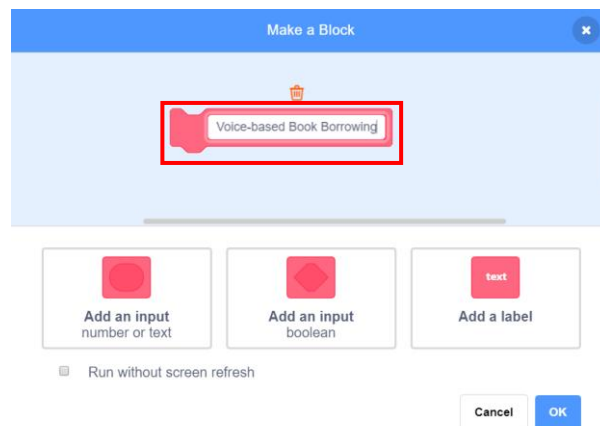

Figure 5.27 Creating the block of book borrowing by voice
Step 2: Write the code. Write a voice borrowing function. Click the **My Blocks** tab, choose Making a New Block, name the block as Voice-based Book Borrowing, and then click **Finish**, as shown in Figure 5.27.